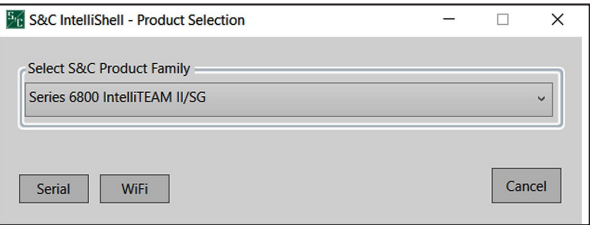

Figure 13. The S&C Electric IntelliShell—Product Selection dialog box.
STEP 2. Select the **Series 6800 IntelliTeam II/SG** option to update a 6801M Switch Operator. Click on either the **Serial** or **Wi-Fi** button based on the communication method used to connect to the control. See Figure 13.